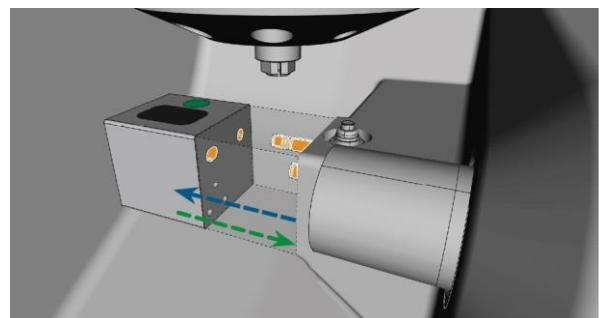

FIG. 46 – EX CHANGING THE TOOL MAGAZINE (TOOL MAGAZINE HOLDER AND HOLES IN THE TOOL MAGAZINE MARKED ORANGE)
- 3.** If an incorrect tool magazine is mounted, remove this magazine by pulling it off the tool magazine holder (Fig. 46 – on the previous page, blue arrow).
6. Plug the tool magazine onto the tool magazine holder (Fig. 46 – on page 43, green arrow):